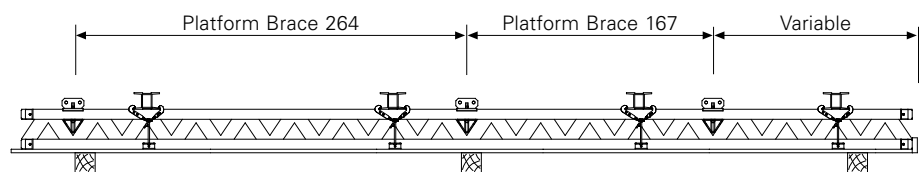

Fig. B2.05.3
4. Mount additional platform connectors. (Fig. B2.05.3)